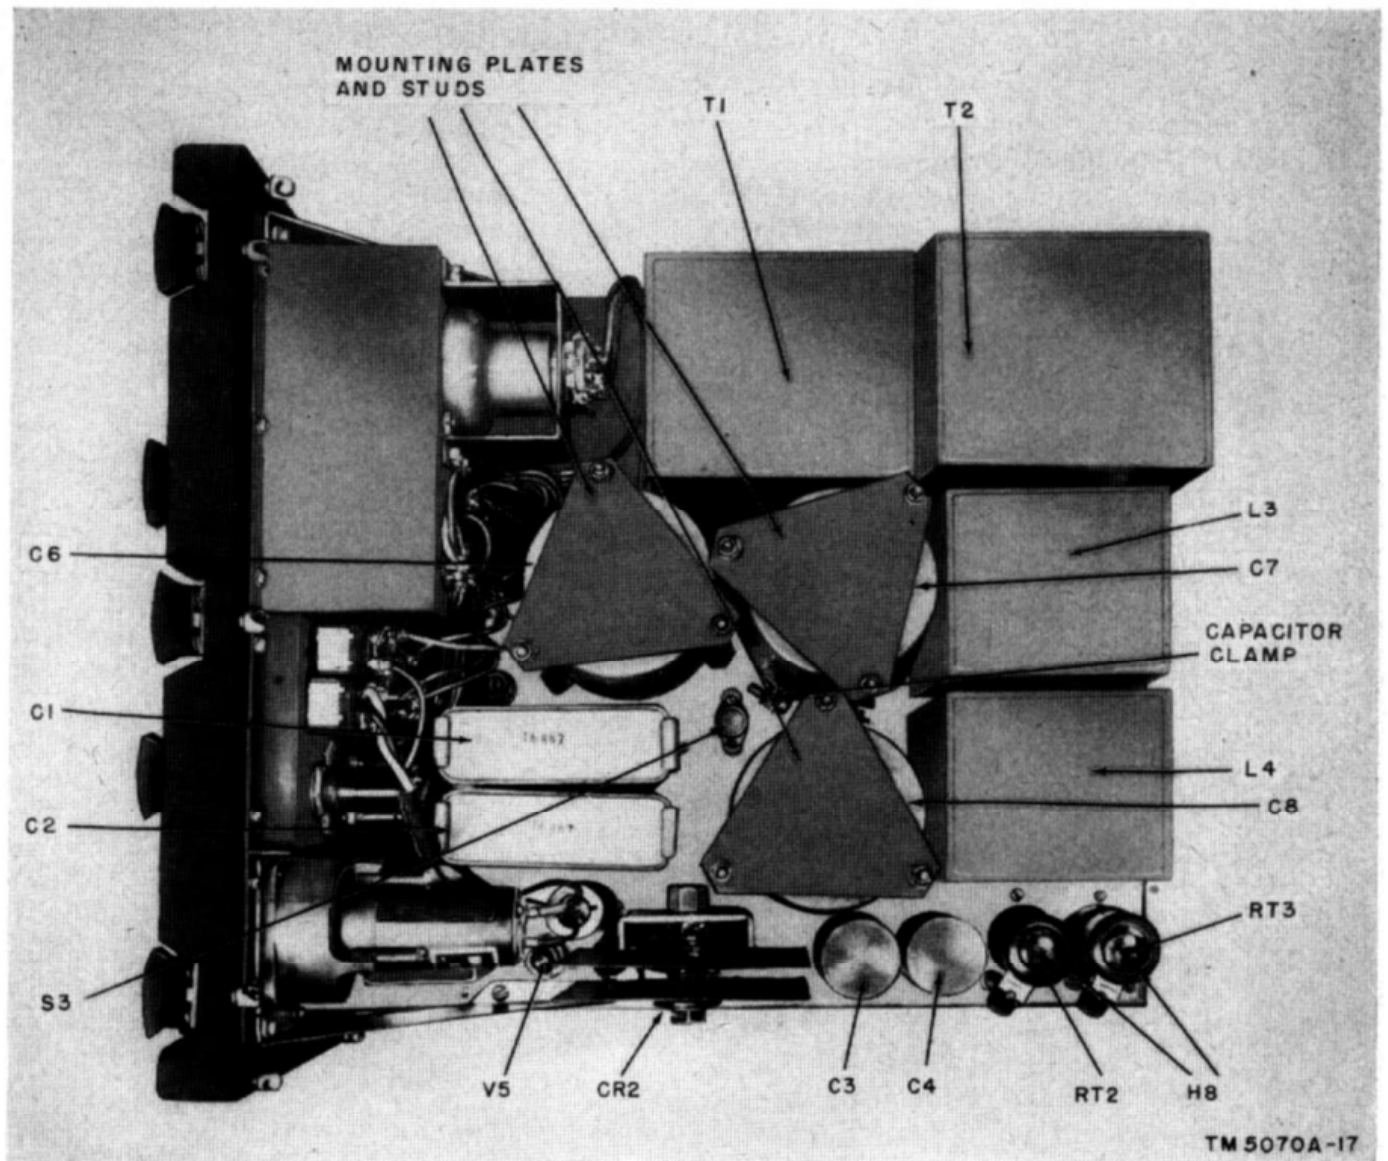

Figure 29. Power Supply PP-327A/GRC-9Y, top view.
c. Parts Attached to Chassis. Most of the parts on the chassis (figs. 29, 30, 31, and 32) can be easily reached and replaced by normal procedures. Remove the seven screws that hold the chassis to the panel and the two screws that hold each supporting bracket to the panel. Separate the panel from the chassis to replace relays K1 and K2, capacitors C9 and C10, rectifier CR1, and reactor L2, because these components are located directly below the brackets and subchassis that are mounted on the panel.
- (1) To replace capacitors C6, C7, and C8, remove the nuts on each end of the three mounting studs at the corners of the